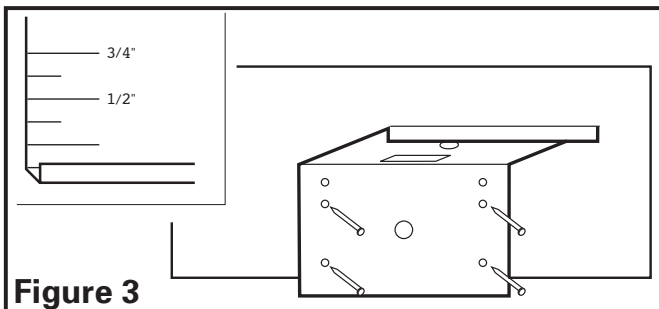

Figure 3
1. Using the gauge on the mounting bracket, line up the bracket on the joist so the bottom of the fan will be flush with the finished ceiling. Nail or screw the bracket in place securely (Figure 3).
2. Line up the bracket on the joist so the bottom of the fan will be flush with the finished ceiling. Nail or screw the snap-in bracket in place securely (Figure 3).